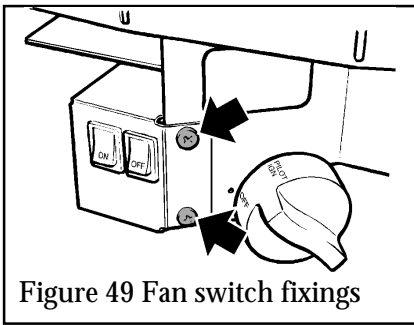

Figure 49 Fan switch fixings
15.5.6 To gain access to the pilot pipe connection, detach the fan switch bracket from the burner control bracket by removing two screws (see figure 49).
15.8.1 Detach the fan switch bracket from the burner control bracket by removing two screws (see figure 49). Carefully pull clear of the burner unit.